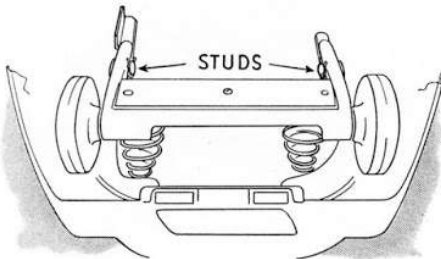

FIG. 138—Rear wheel support bracket,
10. On Models 60 and 61, 62, 63, 29, 64, 634 to remove **rear wheel support bracket** and springs, remove lock rings and drive out two studs which attach the bracket to the main casting. Figure 138. (To replace bracket, first attach it to main casting with the studs and lock rings. Then compress springs with pliers and put them into place over the "bosses" on both main casting and bracket).